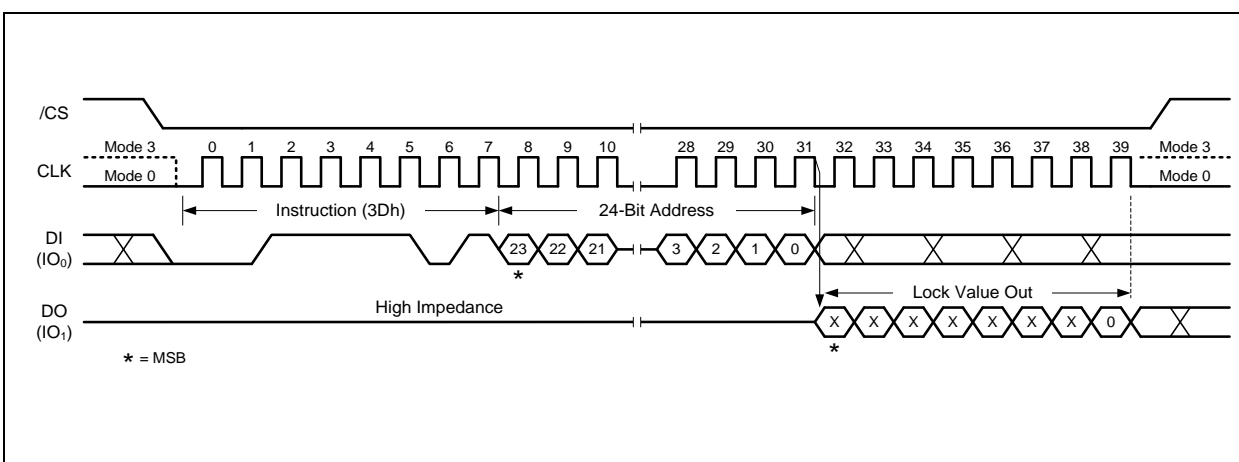

Figure 55. Read Block Lock Instruction
To read out the lock bit value of a specific block or sector as illustrated in Figure 4d, a Read Block/Sector Lock command must be issued by driving /CS low, shifting the instruction code "3Dh" into the Data Input (DI) pin on the rising edge of CLK, followed by a 24-bit address. The Block/Sector Lock bit value will be shifted out on the DO pin at the falling edge of CLK with most significant bit (MSB) first as shown in Figure 55. If the least significant bit (LSB) is 1, the corresponding block/sector is locked; if LSB=0, the corresponding block/sector is unlocked, Erase/Program operation can be performed.